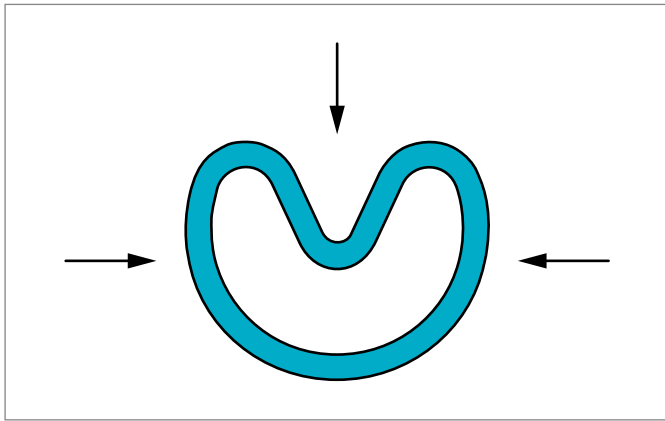

Figure 14: Kidney-shaped deformation
- Compress the Turcon® seal into a kidney shape, while avoiding sharp bends - see Figure 14. When a rod seal with notches is folded in kidney shape, take care to avoid bending the seal at the position of the notches as this may cause overstretch or damage to the seal material.